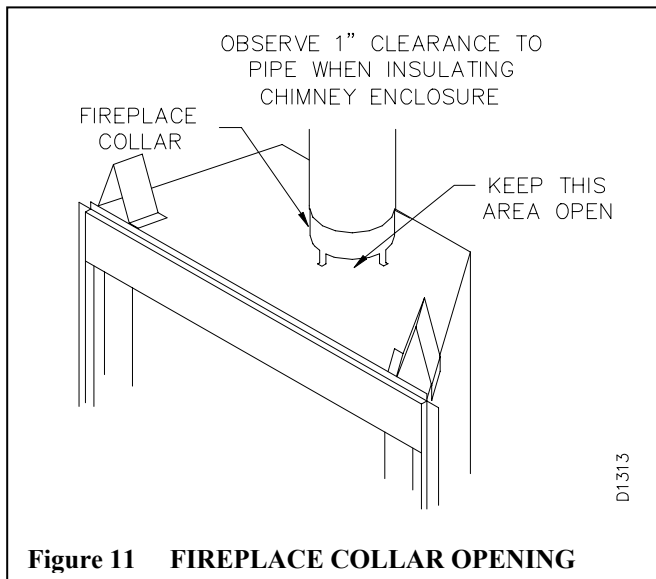

Figure 11 FIREPLACE COLLAR OPENING
5. Do not insulate on top of the firebox. The opening in the collar around the chimney at the top of the fireplace must not be obstructed (see figure 11).